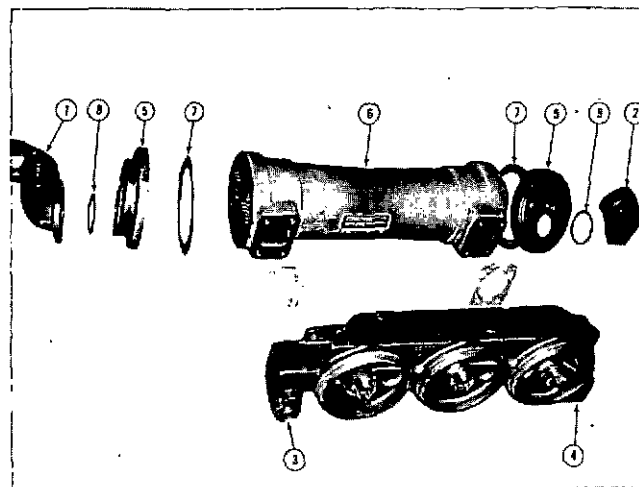

Fig. 7-5-2, V40815. Oil cooler end view, cover plate removed
1. Remove capscrews and lockwashers securing end cover plates to oil cooler; remove end cover plates; discard gaskets. Fig. 7-5-2.
1. Assemble end cover plates (5, Fig. 7-5-2) to oil cooler housing (6) with new gaskets (7), lockwashers (8) and capscrews (9).